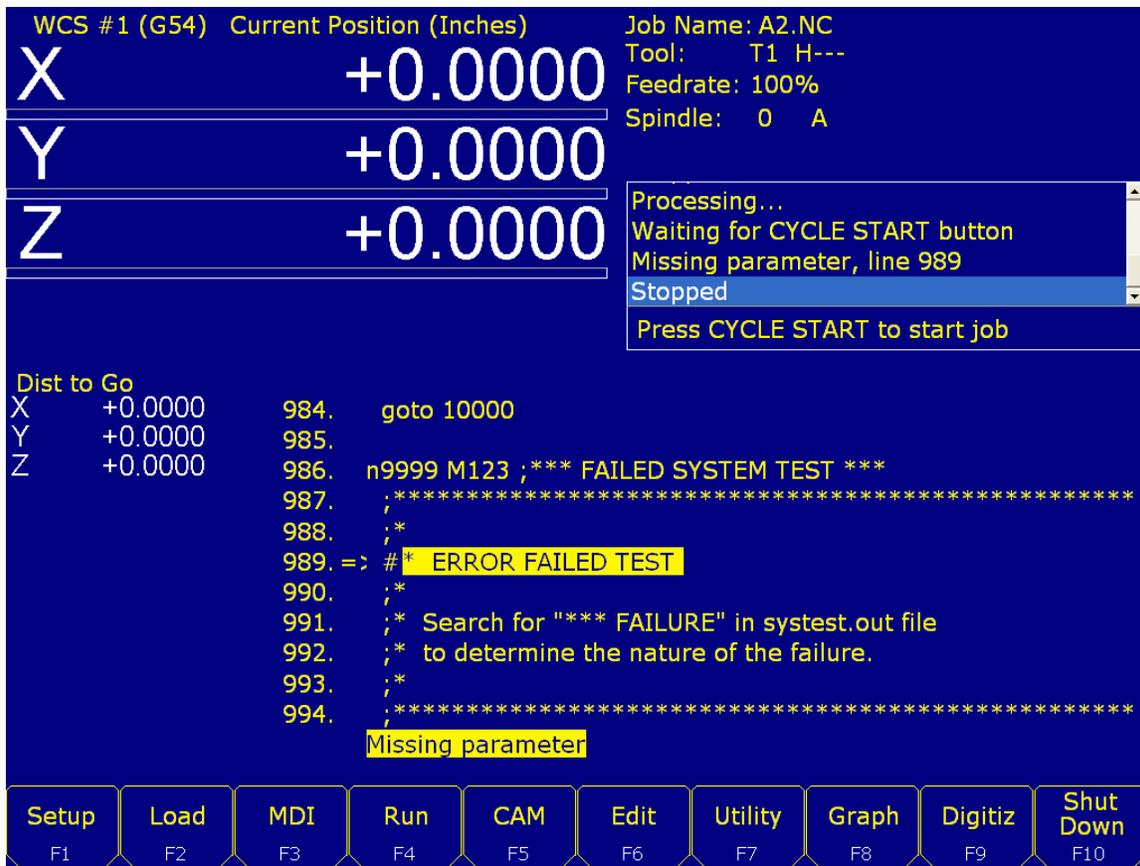

Figure 2: Example of what you'll see at the main menu when a test fails.
4. If System test fails at any time while testing you will see “Missing parameter, line 989” on the Config Screen. Go back to the main screen where you will see the following screen (see figure 2 below). Load the systest.out file located in the CNC10 directory and press **F6 – Edit** to see exactly what failed (See figure 3).